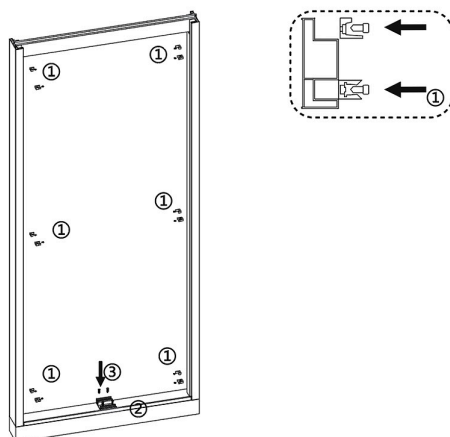

FIGURE 3
(See Figure 3). Install side stoppers then tighten the screws (1).